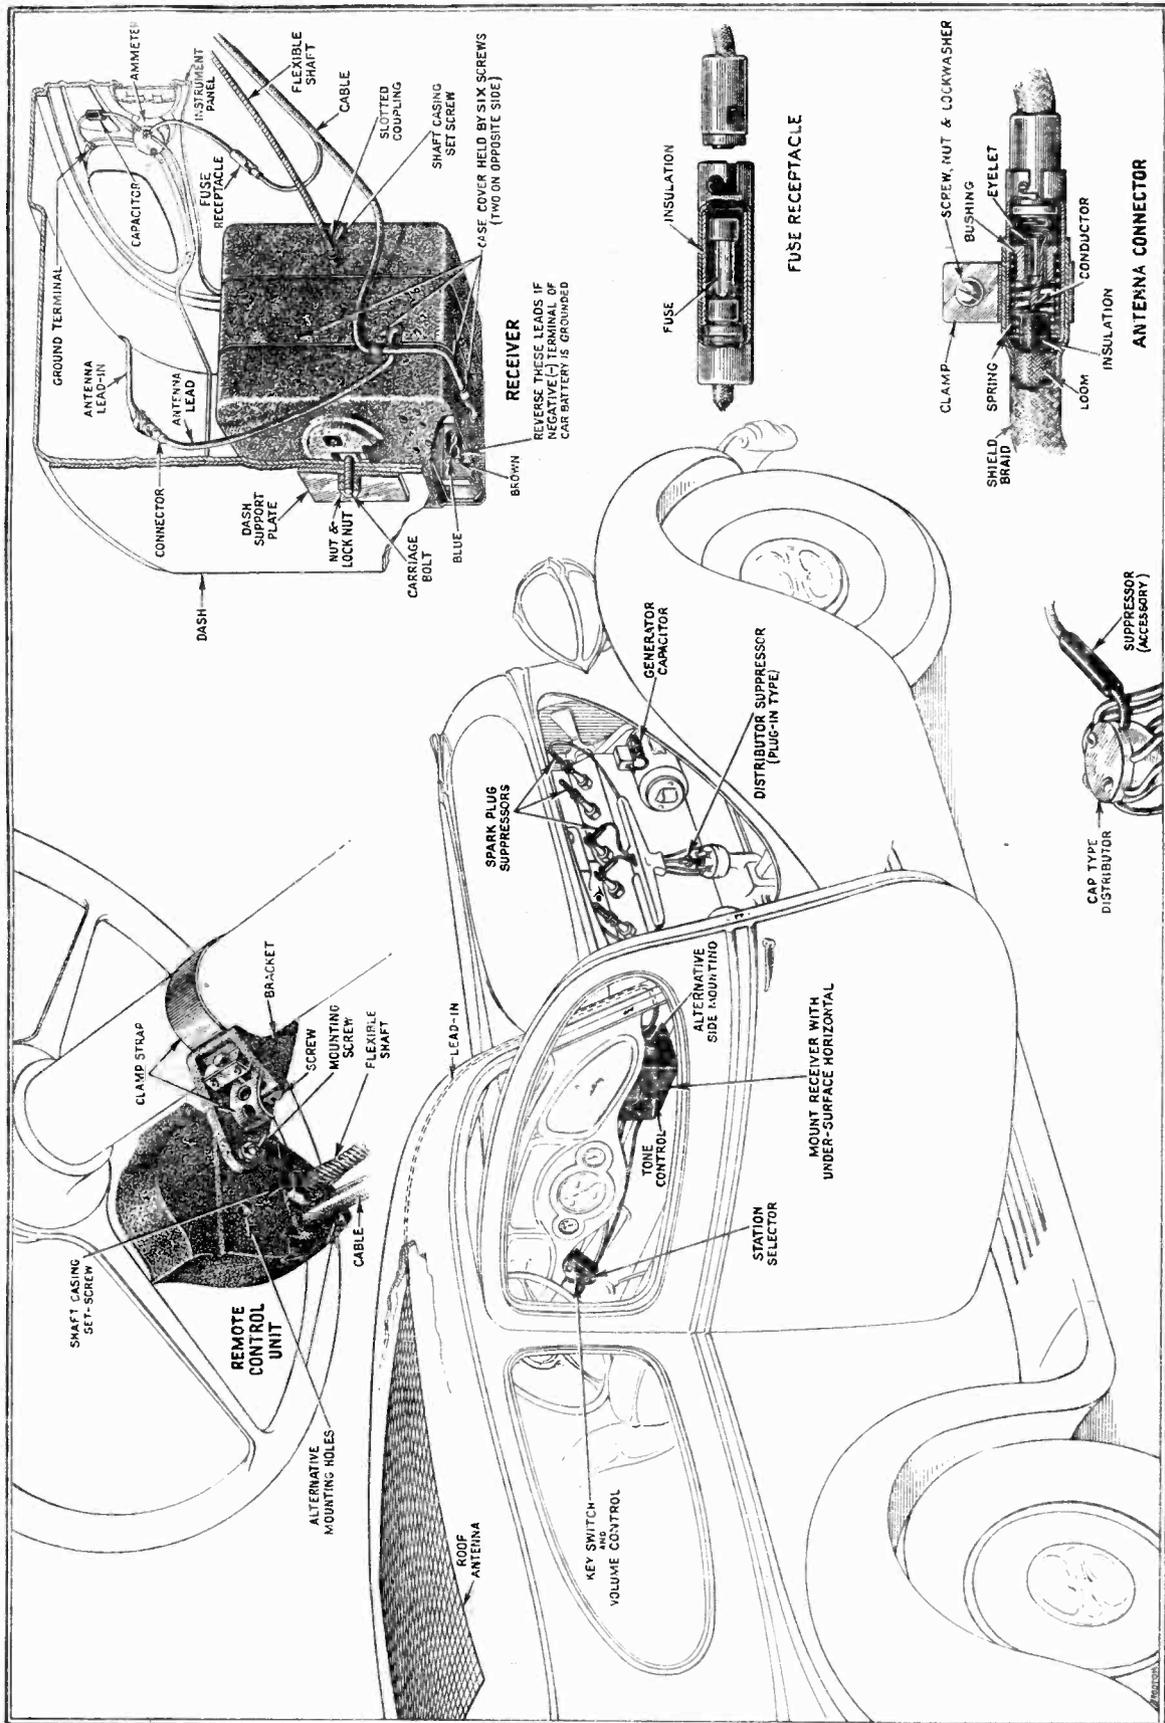

Figure 1
2. **CHECK POLARITY OF AUTOMOBILE STORAGE BATTERY SUPPLY.** If the negative (—) side is grounded to car frame, remove case cover and make changes to chassis connections shown in Figure 1. *Do not disturb these connections if positive (+) side is grounded.* (See details under "Mounting of Units"—page 5.) Replace case cover.
3. Determine most satisfactory mounting position (see details under "Location of Units"—page 4), spot mounting-bolt location and drill $\frac{1}{2}$ " diameter hole. Insert bolt through dash and assemble support plate and nuts on engine side. Hang receiver over bolt head and tighten nuts. (See Figure 1 and details under "Mounting of Units"—page 5.)
4. Attach remote control unit to steering column by means of mounting bracket and strap. (See Figure 1 and details under "Mounting of Units"—page 5.)
5. Assemble flexible shaft to receiver and remote control unit. (See Figure 1 and details under "Mounting of Units"—page 6.) *Make sure that the set-screws are tightened firmly against both ends of shaft casing.*
7. Connect terminal at end of *black* lead from cable to binding-post of automobile ammeter (see Figure 1 and details under "Connections"—page 7). The ignition by-pass capacitor (equipped with two leads) should be installed at this time. (See Figure 1 and paragraph 4 under "Suppression of Ignition Interference"—page 7.)
8. Install spark-plug and distributor suppressors; also generator by-pass capacitor (see Figure 1 and paragraphs 1, 2 and 3 under "Suppression of Ignition Interference"—page 7).
Receiver and Remote Control Units—The arrangement of units shown in Figure 1 is recommended and will be found applicable to the majority of automobiles. Consideration should be given to the possibility of interference of the receiver with other equipment beneath the instrument panel or of the mounting bolt with apparatus on the engine side of the dash. By placing the receiver unit toward the right-hand side of the dash, the flexible shaft will be of correct length as furnished in practically all cases. This position, however, may be considered impractical because of its universal preference for heating devices, necessitating installation of the receiver unit either near the center or at the extreme left-hand side of the dash and the use of a shorter flexible shaft. In such cases, the shaft may be either short-
Details of mounting the various units are shown in Figure 1. The following procedures are recommended:
Receiver Unit—It is necessary first to determine the electrical polarity of the storage battery supply. This may be done most conveniently by making an examination of the battery connections and ascertaining which terminal is grounded (that is, connected to the frame of the car). The positive terminal is usually marked (+) and tends to form corrosion far more rapidly than the negative (—). If the positive terminal is grounded, no change in the electrical connections of the receiver unit will be required. However, if the opposite is true, the cover of the receiver unit case (held in place by six screws) must be removed and the two leads (equipped with spade terminals) located beneath the radio chassis as shown in Figure 1 must be reversed.
Remote Control Unit—In attaching the remote control unit to the steering column of the car, it will be advisable first to examine the detailed view (in Figure 1) showing the assembly of its mounting bracket. Four small holes are contained in the associated flexible strap at distances proper for use with steering columns of the most common diameters ($1\frac{1}{2}$, $1\frac{5}{8}$, $1\frac{3}{4}$, $1\frac{7}{8}$ inches), but the strap length will be found sufficient to permit the insertion of an additional hole if necessary to accommodate a 2 inch column. The proper hole may be determined by wrapping the clamp strap tightly around the column, inserting the machine screw furnished through that hole found to be nearest in alignment with the tapped hole in the clamp bracket. Three tapped holes are provided in the back of the remote control unit, permitting support of that unit either at the right- or left-hand side or above the steering column.
Refer to Figure 1 and make connections as follows: